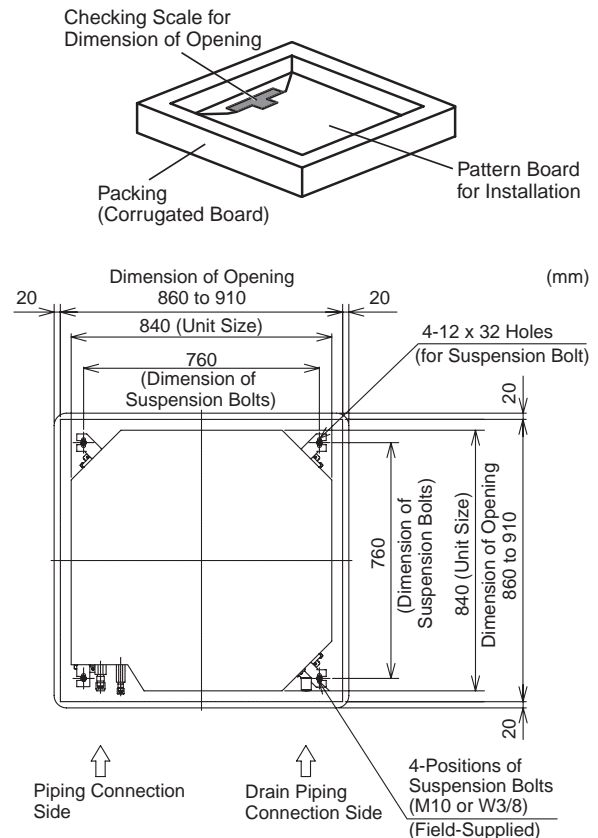

Fig. 4.3 Opening of False Ceiling and Suspension Bolts
- (1) Determine the final location and installation direction of the indoor unit paying careful attention to the space for the piping, wiring and maintenance.
- (2) Cut out the area for the indoor unit in the false ceiling and install suspension bolts, as shown in Fig. 4.3.
- (3) Pattern Board and Checking Scale for Installation